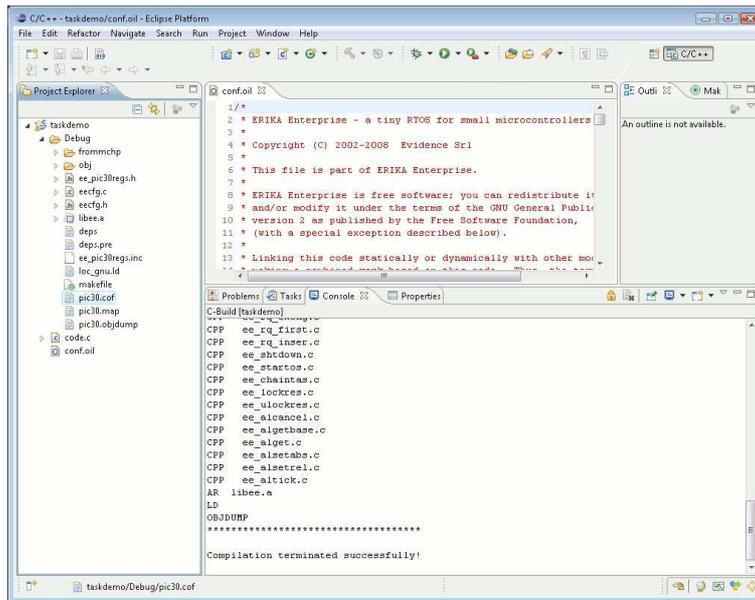

Figure 5.7: The output file is ready to be programmed on the target board.
- At the end of the compiling process you will be able to find a file named 'pic30.cof' inside the Debug directory inside the project, as shown in Figure 5.7.